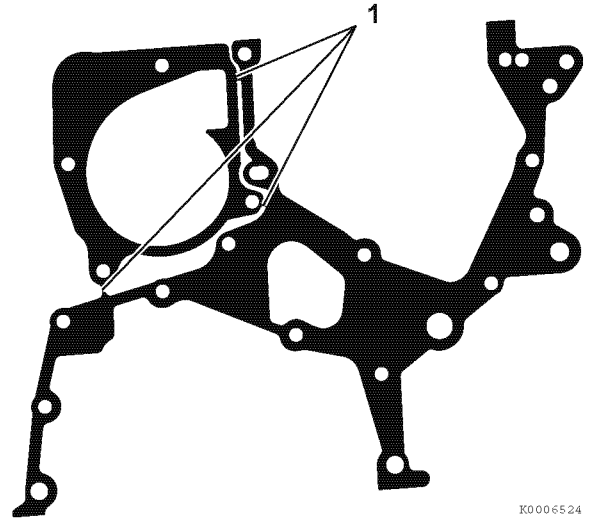

Figure 7-19
8. Cut the coolant pump gasket at the three tabs (1, **Figure 7-19**) to separate it from the new timing chain cover gasket. Check gasket fit before proceeding.